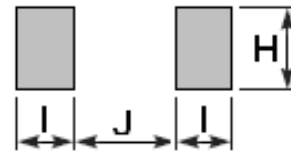

Fig. 4-2
1) Dimensions and recommended PCB pattern for reflow soldering: See Fig.4-1, Fig.4-2 and Table 4-1.